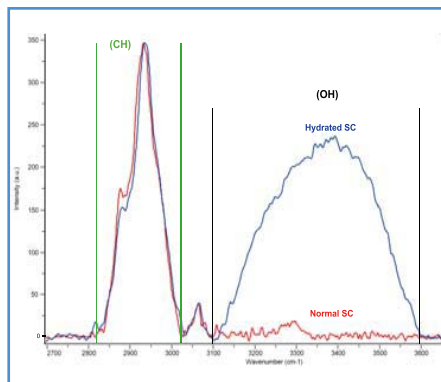

Figure 6: Raman spectra of untreated (red) versus hydrated (blue) stratum corneum
The assessment of the water concentration profile in the stratum corneum (SC) provides crucial information regarding the water-holding capacity and the barrier properties of the skin. The evolution of the water content in the SC can indeed be determined by calculating the area below a part of the complex broad band in the range  $3100\text{--}3600\text{ cm}^{-1}$  of the normalised spectra with respect to the CH band ( $2810\text{--}3030\text{ cm}^{-1}$ ) (Fig. 6). This enables rapid, automated deter-